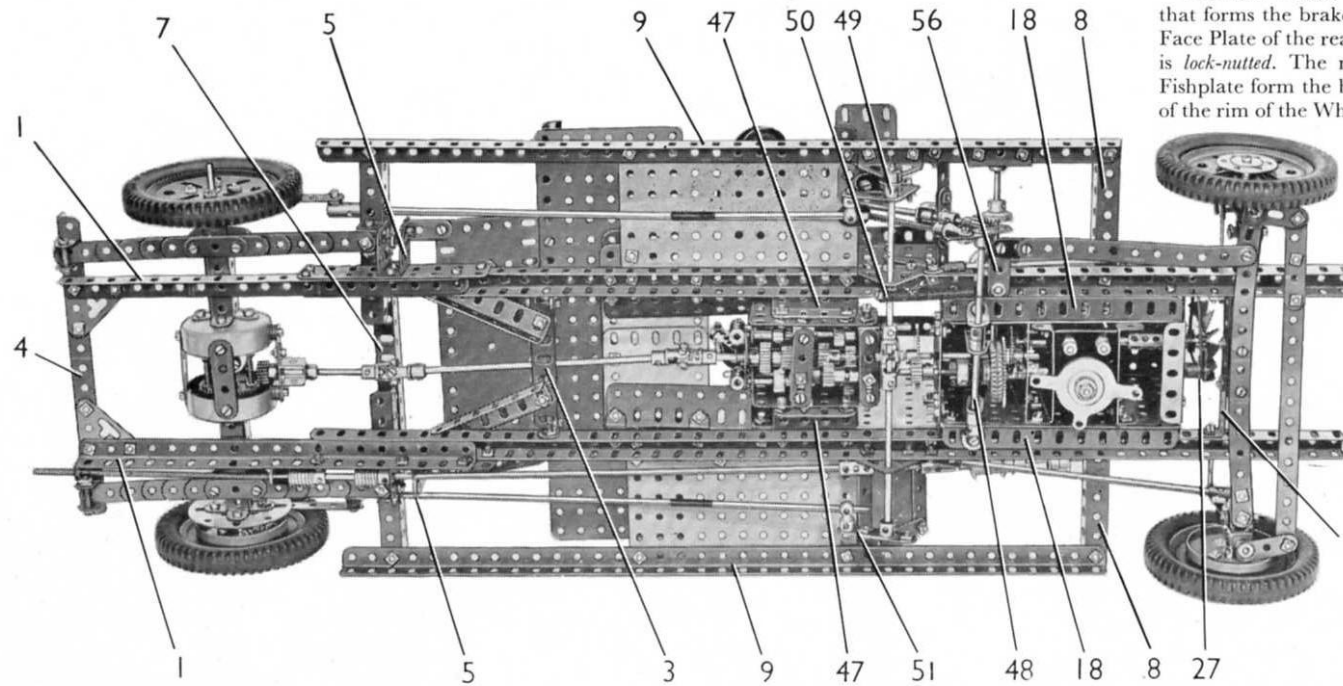
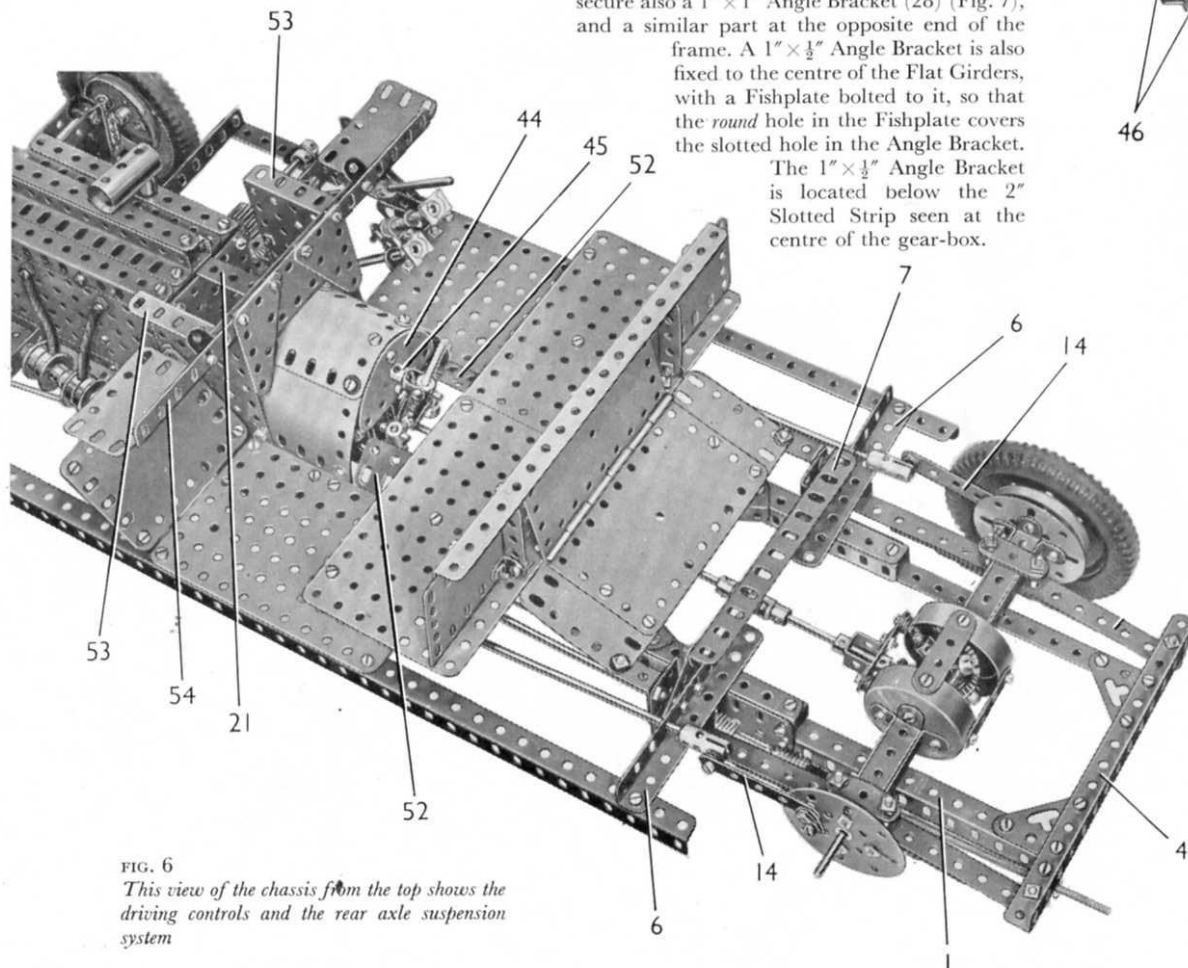

FIG. 2
FIG. 6
Construction of the Model: Details of the Chassis (Figs. 2 and 4)
A Channel Bearing (5) is bolted to each side of the chassis, and to it is fixed a $4\frac{1}{2}$ " Angle Girder (6) fitted with a $1\frac{1}{2}$ " Corner Bracket. The Corner Brackets are connected by a $5\frac{1}{2}$ " Angle Girder (7) (Fig. 6). A $3\frac{1}{2}$ " Angle Girder (8) is fixed to each side of the chassis, and $18\frac{1}{2}$ " Angle Girders (9) are bolted to the ends of the Girders (6) and (8). A $5\frac{1}{2}$ " \times $3\frac{1}{2}$ " Flat Plate is bolted between the chassis member and the Girder (9) on each side (see Fig. 2).
The rear wheels are 3" Pulleys, to each of which a Wheel Flange that forms the brake drum is bolted. A Fishplate is lock-nutted to each Face Plate of the rear axle, and to the Fishplate a $2\frac{1}{2}$ " Strip (14) (Fig. 6) is lock-nutted. The nuts on the bolt that connects the Strip and the Fishplate form the brake shoe, and can be pulled against the inner side of the rim of the Wheel Flange by means of the Strip (14).
Each of the rear springs is formed by a $7\frac{1}{2}$ ", a $5\frac{1}{2}$ ", a $4\frac{1}{2}$ ", a $3\frac{1}{2}$ ", a $2\frac{1}{2}$ " and a $1\frac{1}{2}$ " Strip connected by two $1\frac{1}{8}$ " Bolts. The Bolts pass on each side of the axle casing, through three $1\frac{1}{2}$ " Strips placed face to face. Nuts on the Bolts clamp the $1\frac{1}{2}$ " Strips and the axle casing securely to the spring (see Fig. 6).
The sparking plugs are $\frac{3}{8}$ " Bolts, that are connected to a Chimney Adaptor by four lengths of Spring Cord. The exhaust pipe consists of two Springs bolted to the housing and clamped at their lower ends between $\frac{3}{8}$ " Flanged Wheels on a $3\frac{1}{2}$ " Screwed Rod. One end of the Screwed Rod is fixed in one of the Girders (8) (Fig. 2), and to the other a Flexible Coupling Unit is attached by a Threaded Coupling. The Flexible Coupling Unit is joined by a Coupling to an $11\frac{1}{2}$ " Rod that passes through one of the Channel Bearings (5). This Rod carries two Worms, in one of which is held an Adaptor for Screwed Rods that supports a 6" Screwed Rod. The rear end of the Screwed Rod is fixed in an Angle Bracket bolted to the Girder 4.
A $1" \times 1"$ Angle Bracket is bolted to the top at the rear end of the gear-box frame, and a Threaded Pin is passed through this Angle Bracket and through a Semi-Circular Plate (44) (Fig. 6). A Swivel Bearing (45) is fixed on the Threaded Pin, and in it is held a $2\frac{1}{2}"$ Rod that forms the gear lever. A Coupling, to which two Fishplates (46) are attached by bolts, is fixed to the lower end of the $2\frac{1}{2}"$ Rod. The Fishplates are arranged one on each side of bolts screwed into the Couplings (43). The movement of each selector shaft is restrained by a $\frac{3}{8}$ " Bolt held in the top of the gear-box frame by two nuts. The shank of this Bolt presses lightly against the selector shaft.
The gear-box is connected by $\frac{3}{8}$ " Bolts to Girder Brackets (47) bolted to the chassis (Fig. 2). The sides of the gear-box are spaced from the Girder Brackets by a nut on each bolt. A 57-tooth Gear on the input shaft is driven by a $\frac{1}{2}"$ Pinion on the Rod (25), and the drive to the rear axle is carried by a $6\frac{1}{2}"$ Rod and two Universal Couplings.
Clutch and Brake Mechanisms (Figs. 2, 5 and 8)
The brake pedal is a Slide Piece on a 2" Rod, which is mounted in an Obtuse Angle Bracket bolted to a 1" Triangular Plate fixed to the $5\frac{1}{2}" \times 3\frac{1}{2}"$ Flat Plate. Two Compression Springs are placed on the Rod between the Slide Piece and the Obtuse Angle Bracket. An End Bearing on the lower end of the 2" Rod is lock-nutted to a Bell Crank (49) (Fig. 2) on a built-up axle. This axle consists of two $4\frac{1}{2}"$ Rods, each of which carries a small Fork Piece, and the Fork Pieces are bolted together by their lugs. The axle is supported in Flat Trunnions bolted to the chassis, and in a $1\frac{1}{2}"$ Strip fixed to a Trunnion attached to one of the Girders (9). The axle is held
in place by a Collar, and in addition to the Bell Crank (49) it carries half of a Dog Clutch (50) and a 2" Strip (51) bolted to a Double Arm Crank. Handrail Couplings are pivoted on bolts passed through the Bell Crank and the Strip (51), and each Handrail Coupling is connected by a built-up rod to a Strip Coupling that pivots on a bolt in one of the Strips (14) (Fig. 6). The built-up rods are each made from a 4" and an 8" Rod joined by a Rod Connector. A Spring is attached by a bolt to the half of the Dog Clutch (50) and is looped over the clutch shaft (48).
Gear-Box Cover, Dashboard and Front Seat (Fig. 6)
A Hinged Flat Plate is bolted behind the front seat, and its horizontal half is extended on each side by a $2\frac{1}{2}'' \times 1\frac{1}{2}''$ Flexible Plate. These plates are connected to the Channel Bearings (5) (Fig. 2) by $1'' \times 1''$ Angle Brackets.
The steering column is a $6\frac{1}{2}''$ Rod that is supported in an Angle Bracket bolted to Girder (54) (Fig. 6) and in a Double Bent Strip and a Double Arm Crank fixed to a $3'' \times 1\frac{1}{2}''$ Double Angle Strip. The Double Angle Strip is bolted to one of the Flanged Plates (53) and to a Corner Gusset supported by a $2''$ Angle Girder fixed to one of the Girders (9).